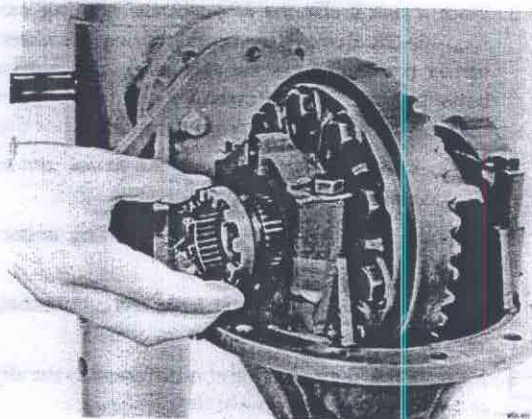

Fig. 46-35. Differential lock flange
1. Check the selector fork for the differential lock for wear. In the event the lock or the fork has to be replaced, see the special instructions. Lift up the flange and hold it in position with a suitable tool, see Fig. 46-35.